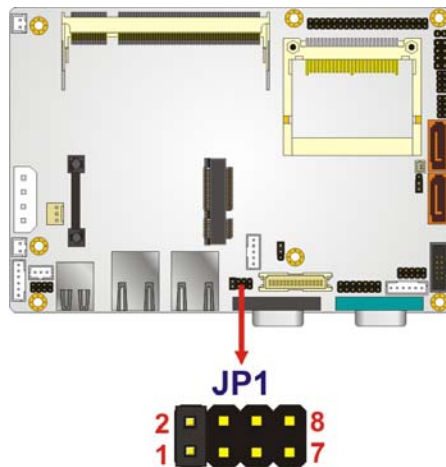

Figure 4-6: COM 2 Function Select Jumper Location
- Jumper Location:** See Figure 4-6